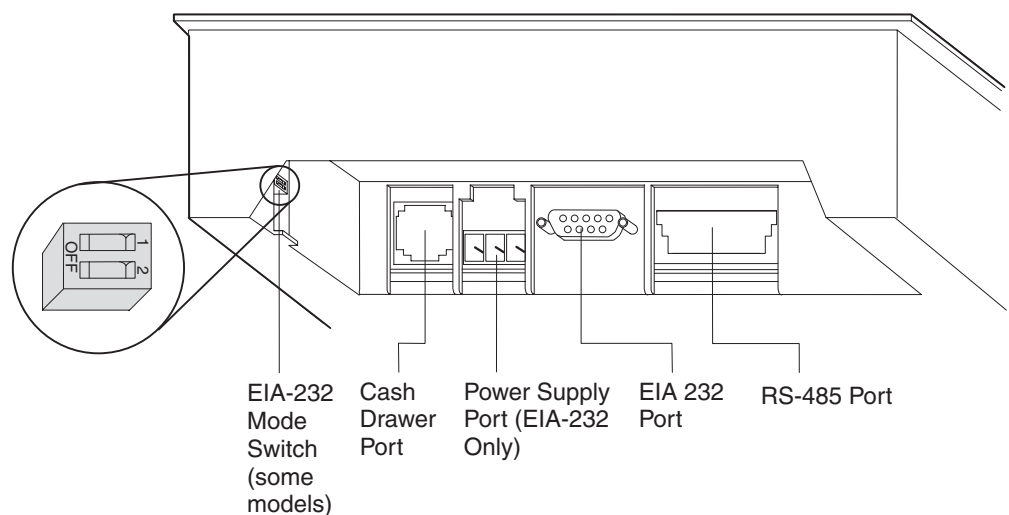
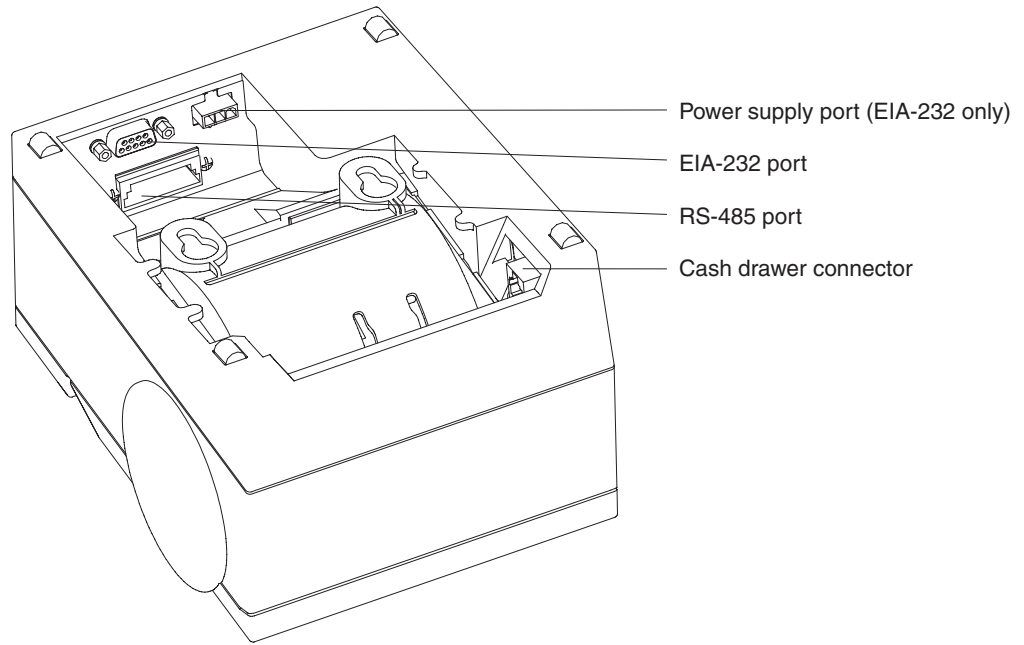
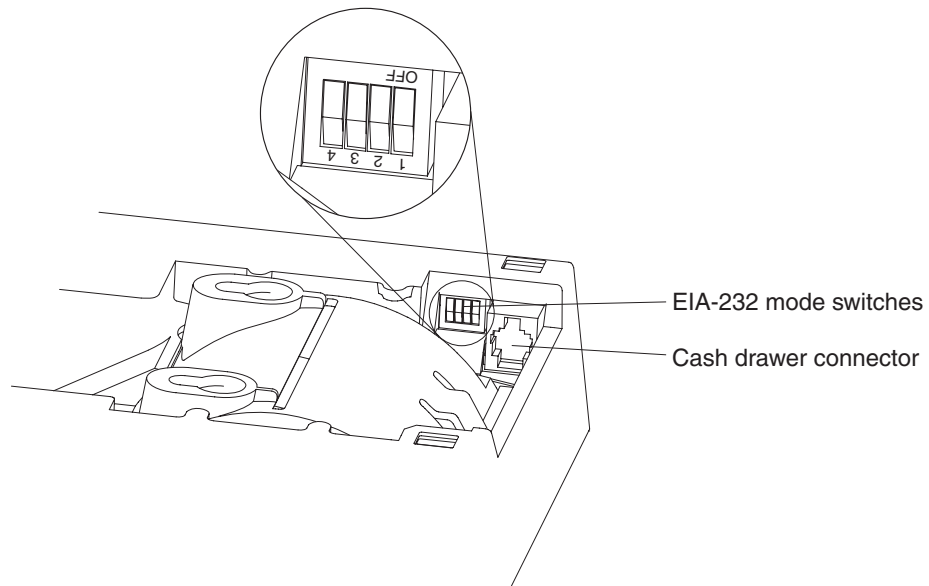

Figure 5. Cable connectors and EIA-232 settings switch for thermal/impact SureMark printers. (View is from the bottom rear of the printer)
Figure 6. Cable connectors for single-station SureMark printers. (View is from the bottom rear of the printer)
Figure 7. EIA-232 mode switches for single-station SureMark printers. (View is from the bottom rear of the printer)
- a. For all models except TI8, TG8, TI9, TG9, check the settings on the EIA-232 mode switch, which is near the rear cable connections. See Figure 5 for thermal/impact printers. See Figure 6 on page 19 and Figure 7 on page 19 for single-station printers.
1. Power the system off and disconnect the EIA-232 power supply (if connected). See Figure 5 on page 18.
Switch settings described in this section apply only when the printer is connected to the system with the EIA-232 cable. The switch is accessible without removing the printer covers. (See Figure 5 on page 18 to see how to access the switch.)